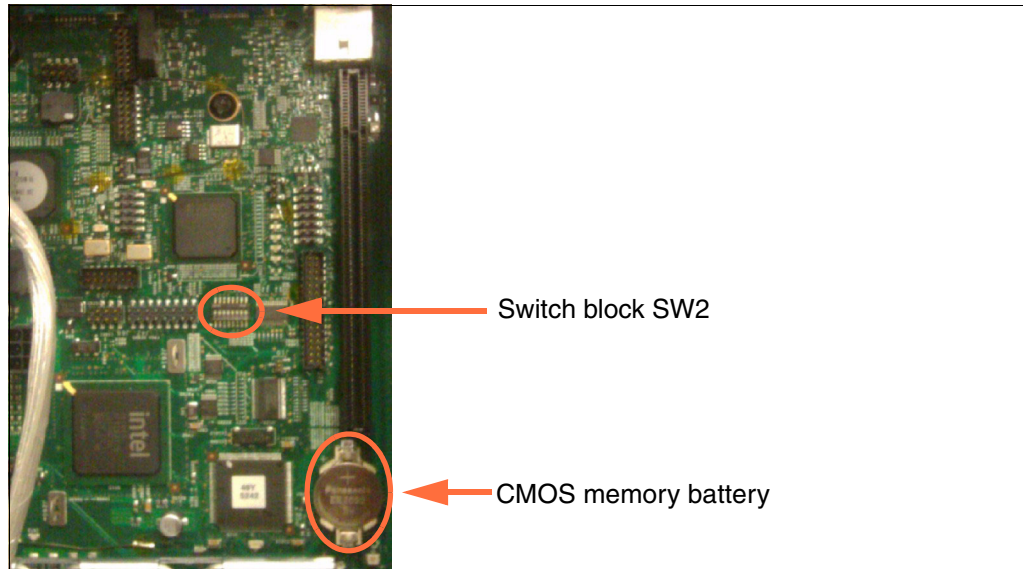

Figure 7-2 Location of switch block SW2 and the CMOS memory battery
- b. Locate the switch block SW2 in the back right of the server as you face the front of the server, as shown in Figure 7-2 on page 303. If the optional PCIe riser card is installed, it will need to be removed from the server first.
- b. Locate the CMOS battery (shown in Figure 7-2).